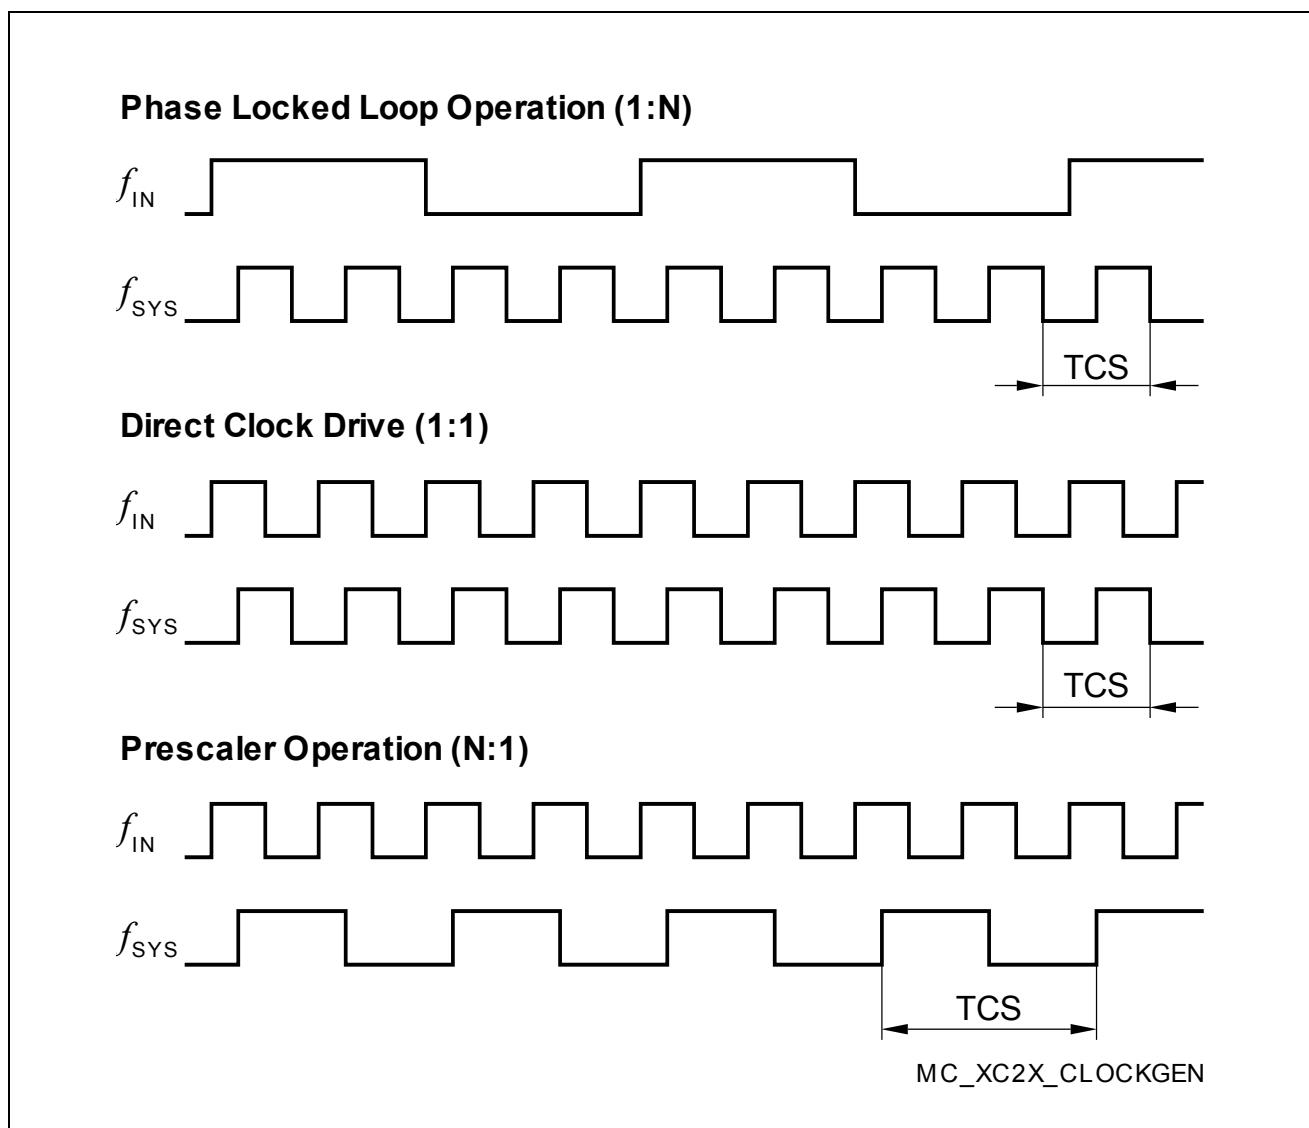

Figure 19 Generation Mechanisms for the System Clock
*Note: The example of PLL operation shown in **Figure 19** uses a PLL factor of 1:4; the example of prescaler operation uses a divider factor of 2:1.*